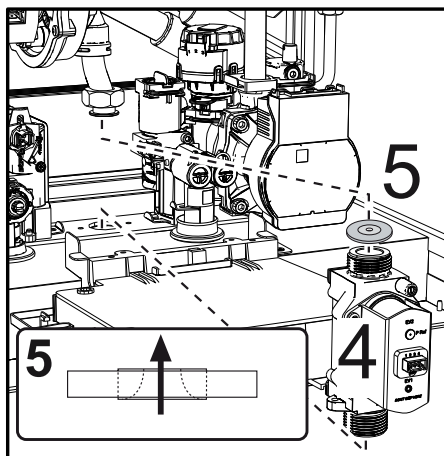

fig. 46
- Remove the gas valve "4" and the gas diaphragm "5" (fig. 46).